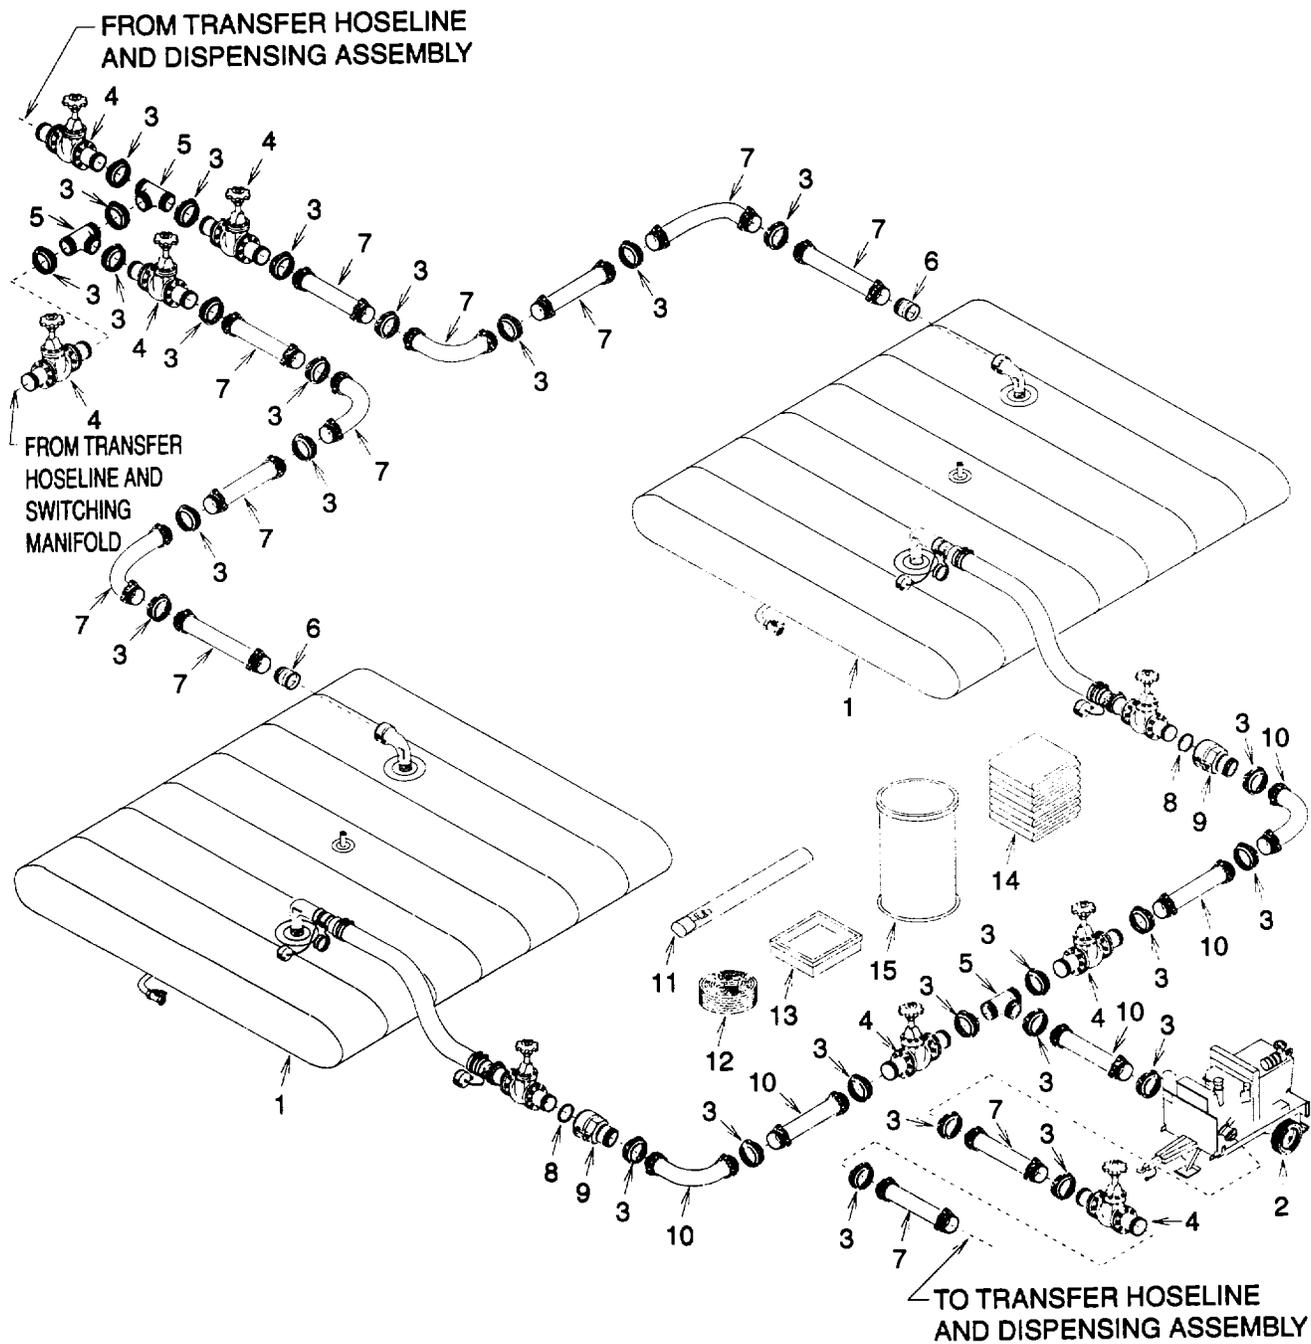

Figure 4-8. Tank Farm Assembly
- a. Locate and install 2 each 5,000 BBL collapsible fabric tanks (1) (figure 4-8). Be sure that elbows, hoses, and valves supplied with tanks are installed.
- b. Position containers storing the remaining components near their respective installation sites near the fabric collapsible tanks (1).